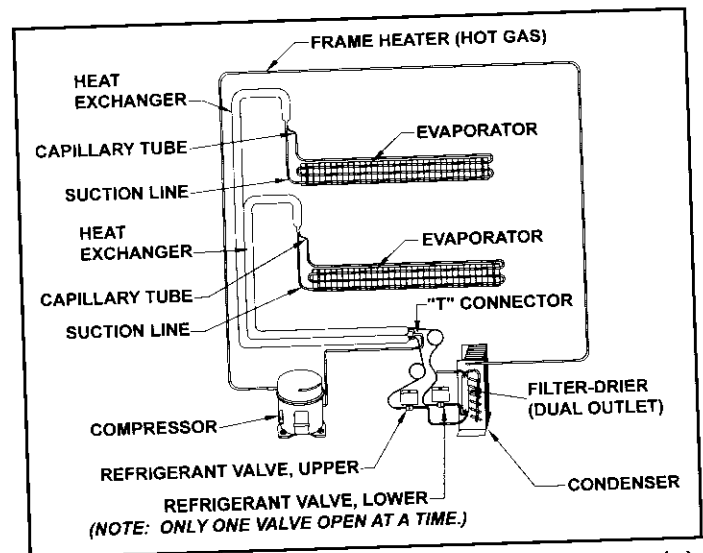

**Figure 4-5. Evaporator(s)**
**Evaporator(s) (Figure 4-5)**